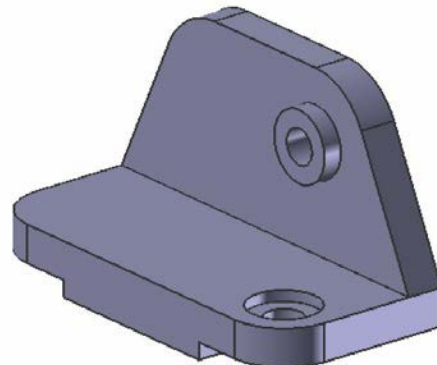

Figure 7-99 Model after creating the simple hole on the extruded join feature
2. Use the center point of the last feature to place the hole. The model after creating the simple hole is shown in Figure 7-99.